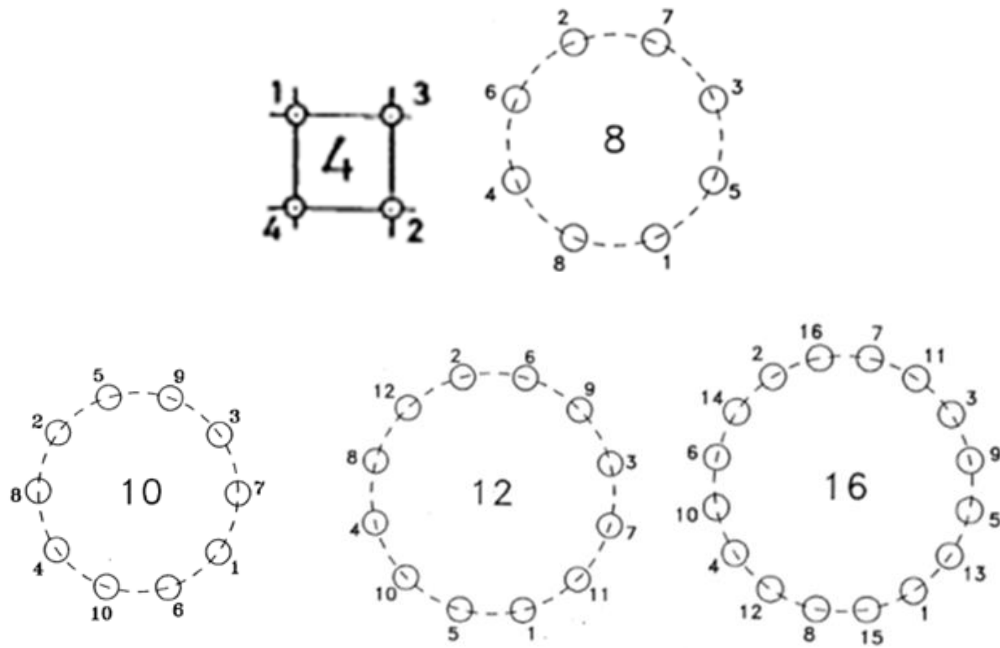

Fig. 7 Tightening Sequence
- Tighten the first four nuts in the sequence shown Fig.7. This helps in correct location of the mating parts.
- Tighten the other bolts in the sequence shown Fig.7 the same way.